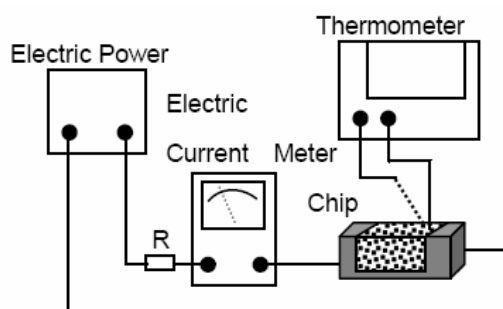

Fig1
- B、 Test equipment (see Fig1): Electric Power, Electric current meter, Thermometer.
- C、 Measurement method (see Fig1):